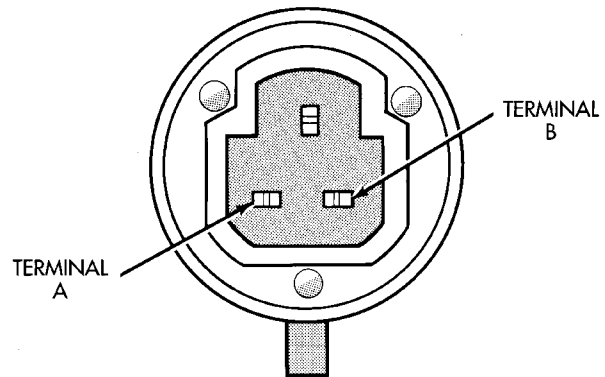

Fig. 80 Engine Coolant Temperature Sensor
(2) Connect a high input impedance (digital) volt-ohmmeter to terminals A and B (Fig. 80). The ohmmeter should read as follows:
(3) Test the resistance of the wire harness between the PCM 60-way connector terminal 28 and the sensor harness connector. Also check for continuity between PCM 60-way connector terminal 51 and the sensor harness connector. Refer to Group 8W, Wiring diagrams for circuit information. If the resistance is